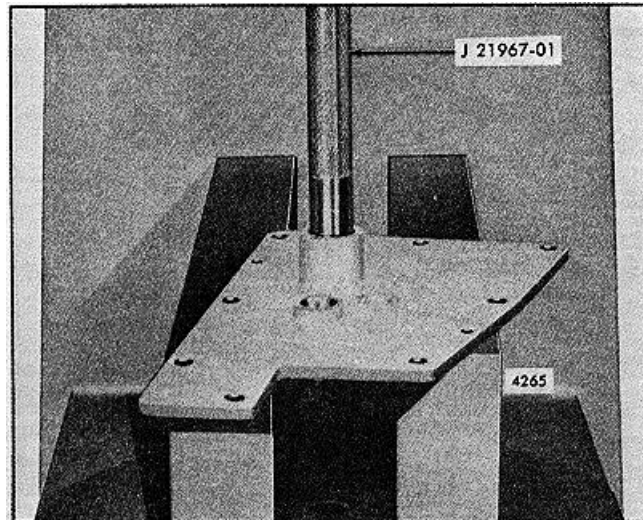

FIG. 8 - Removing Speed Control Shaft Bearing from Governor Cover using Tool J 21967-01
- g. If needle bearing removal is necessary, place the inner face of the cover over the opening on the bed of an arbor press. Place remover J 21967-01 on the top of the bearing and press both bearings out of the cover as shown in Fig. 8.
inner face of the cover over the opening on the bed of an arbor press. Place remover J 21967-01 on the top of the bearing and press both bearings out of the cover as shown in Fig. 8.